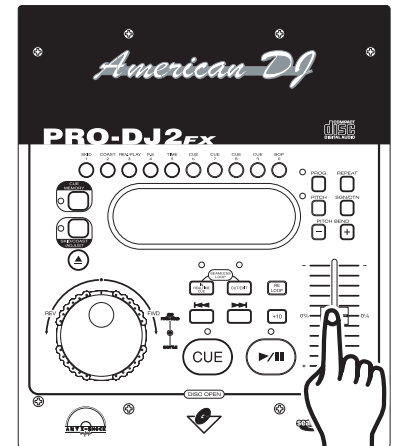

Figure 13
- 3) Press the *OUT/EXIT BUTTON (23)* to set the ending point for your *SEAMLESS LOOP* (Figure 13). The *IN REALTIME CUE BUTTON (24)* and *OUT/EXIT BUTTON (23)* LEDs will begin to flash indicating *SEAMLESS LOOP* mode has been activated.